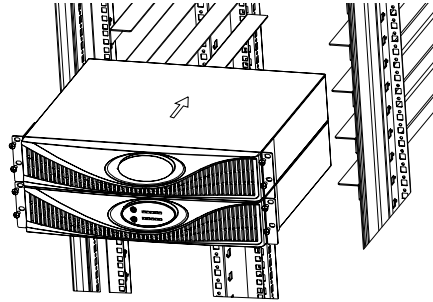

Figure 2-8 Installing modules
2. Use step 2 in section 2.4.1 to install the power module and battery module on the rack one by one, with the power module in the lower position to facilitate cable connection, as shown in Figure 2-8.